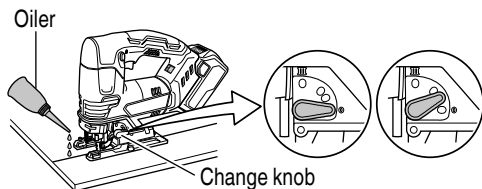

Fig. 25
4. Cutting metallic materials (Fig. 25)